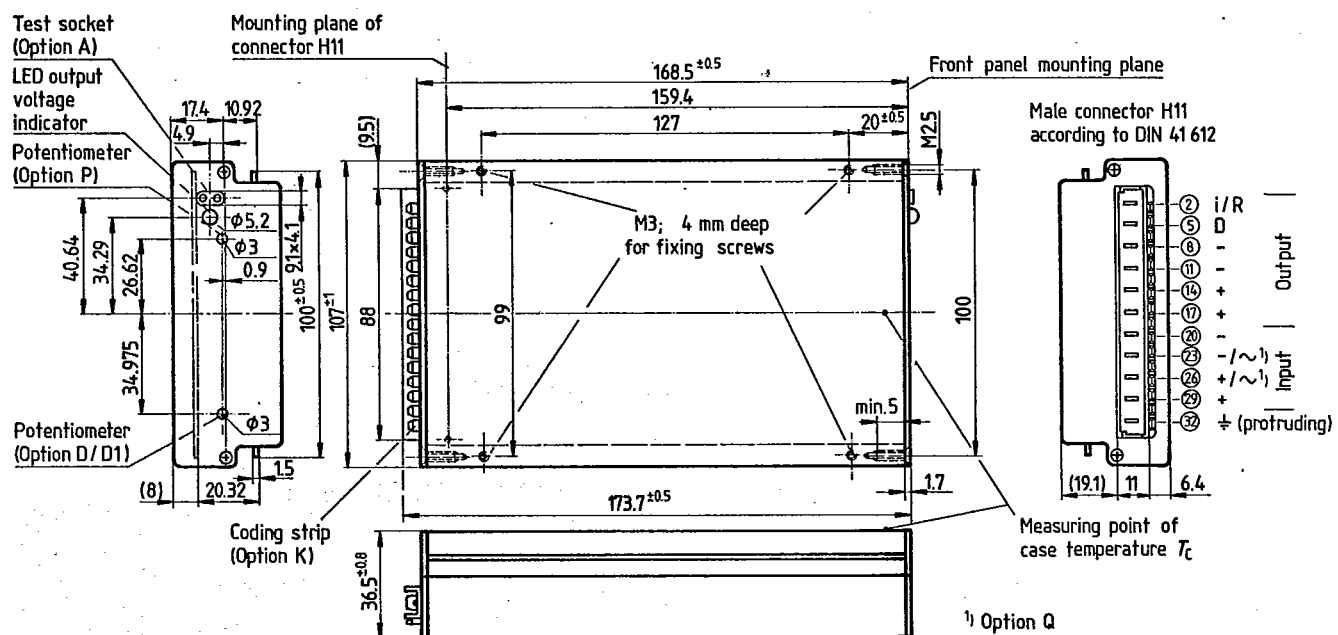

Fig. 19
- Option K:** Coding strip to prevent insertion of wrong device; available for case L04. See Fig. 19.